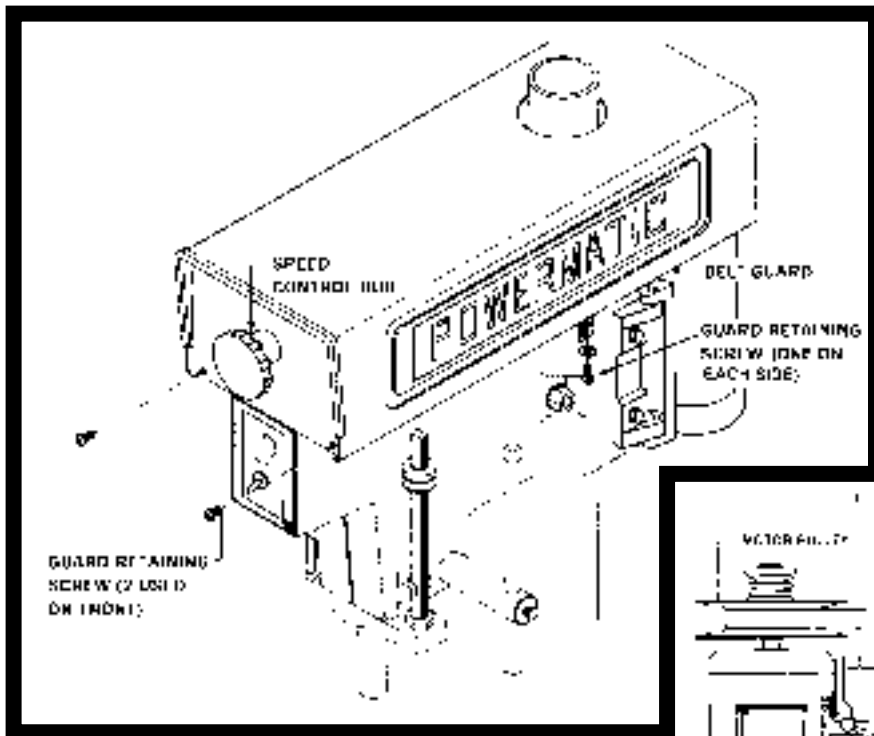

FIGURE 3
- a. Remove variable speed control hub (Fig. 3), from the shaft. Then remove guard retaining screws and lift guard from machine.